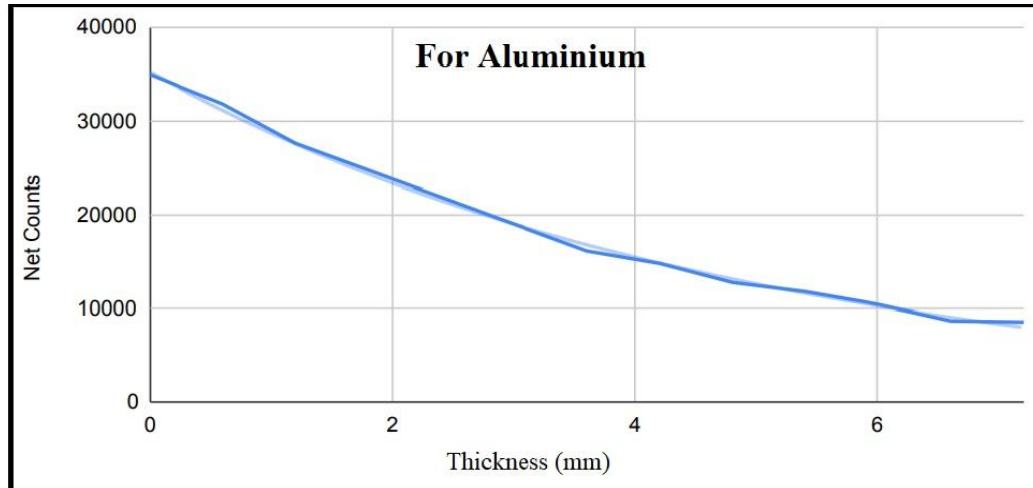

Fig.23 Graph showing the variation of counts with Aluminium absorber thickness
- Plot the Net Counts versus Absorber thickness in 'mm' as shown in Fig. 23 and determine the Half Value Thickness or Half Value Layer (HVL) in terms of thickness (mm) from the Curve.